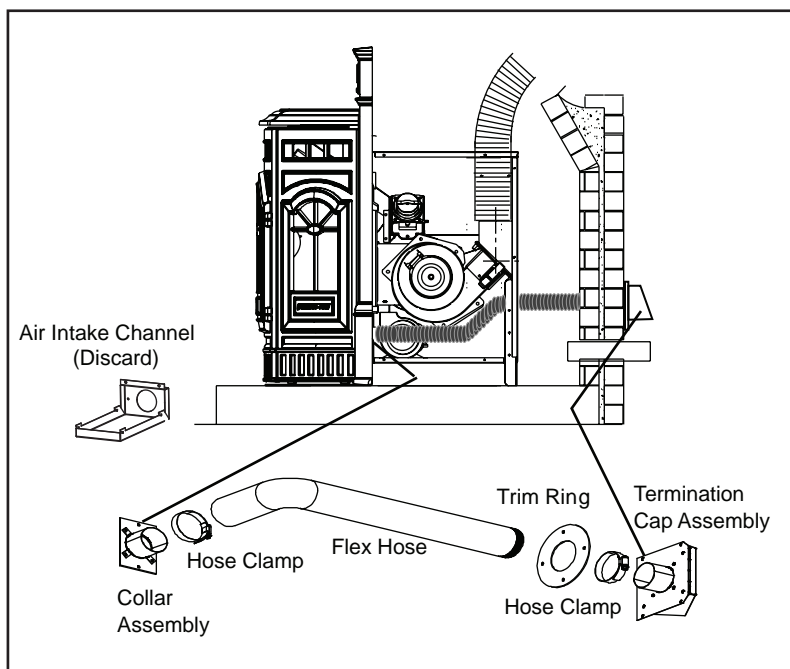

Figure 19.1
1. Attach collar assembly to appliance. **Figure 19.1.** Measure distance from floor to air vent opening in appliance and mark location on wall.